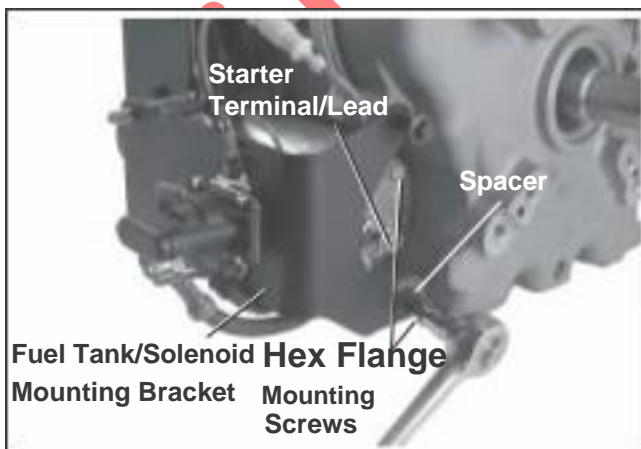

Figure 9-15. Removing Bendix Drive Starter.
2. If starter is mounted on studs with a fuel tank/solenoid bracket. See Figure 9-15.
- a. Remove the two hex flange screws through the closure plate. Note installation of spacer washer behind bracket on lower screw. See Figure 9-15.